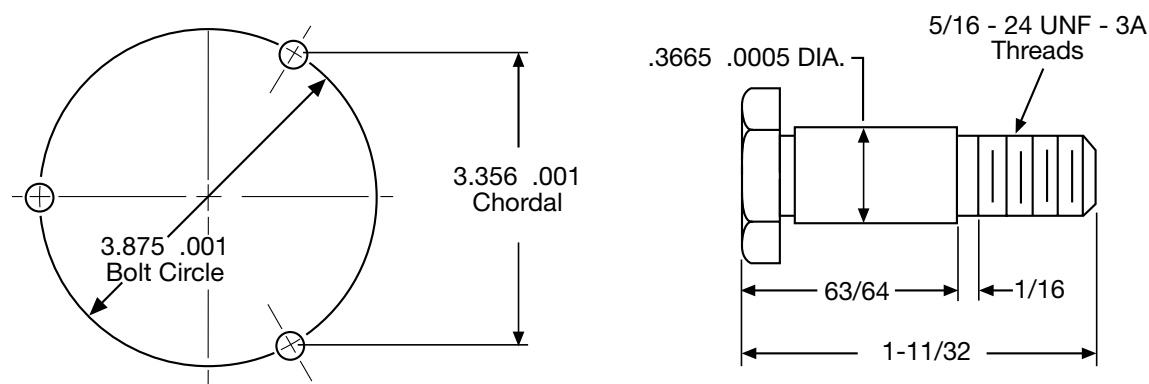

Figure 4
1. A customer may wish to use the autogap accessory to mount a clutch armature to his own pulley, hub, gear, etc. Follow the illustrated dimensions (Figures 4, 8 and 9) to properly adapt these parts to the armature.